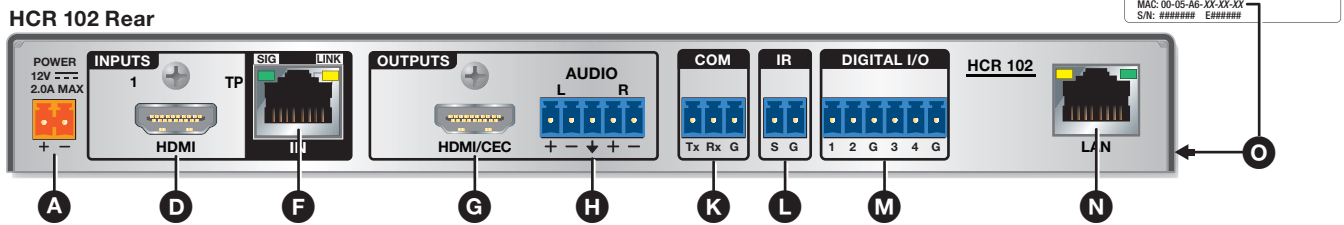

Figure 3. HCR 102 Rear Panel
4. Write down the MAC address of each HCR 102 (see figure 3,  on the previous page) or other IP Link Pro device to be used.